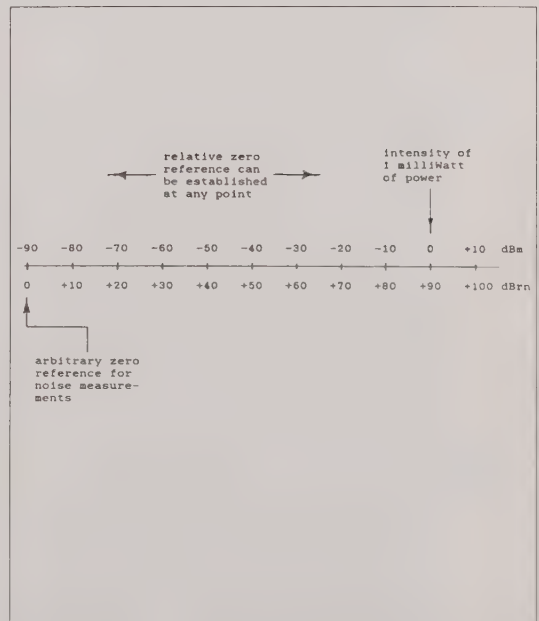

Figure 3-2. Level and Noise Units of Measurement
00.0 dBm is defined as the level of *one (1) milliWatt of power*, hence the abbreviation "m" after the dB. Levels of less power than this reference point are negative, -dBm values, and levels of greater power are positive, +dBm values. See Fig. 3-2.
dBrn, AM5XT only. The dBrn unit is used in noise level measurements, "rn" meaning relative noise. Note in Fig. 3-2 that the zero reference for noise measurement has been established at -90.0 dBm, an extremely low level for a telephone line. Thus, noise measurements will always be positive (higher level) with respect to the 00.0 dBrn reference.